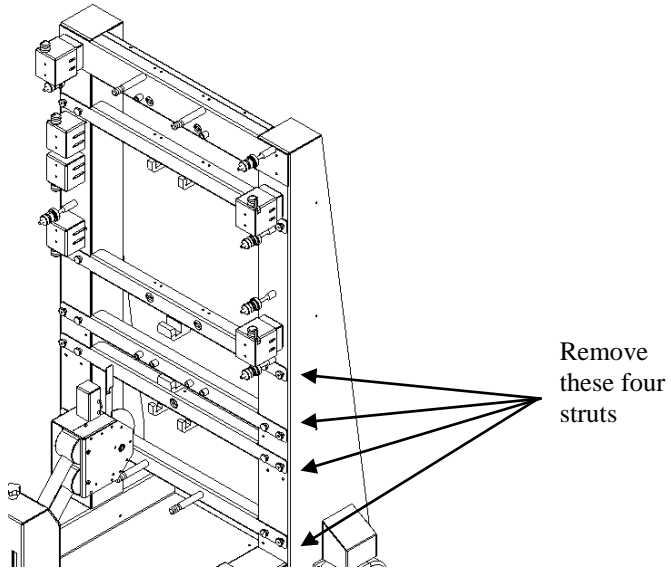
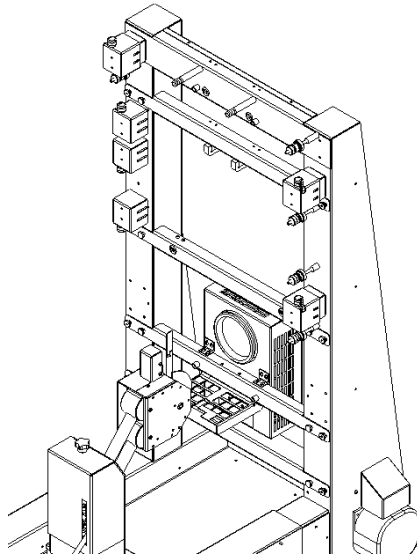

Figure 5: Removing four struts to fit radiator
Figure 6: FlexiBurn with radiator fitted (test frame not fitted)
The radiator package is supplied as an optional accessory and is not part of the standard FlexiBurn package. It is used to carry out tests to the standard EN 13772: 2003. The equipment consists of a ceramic radiator which is held in a metal case, a brass test frame incorporating a heat shield and a variable transformer. In order to use the equipment the radiator must be fitted to the standard FlexiBurn. To do this, four (4) of the support struts must be removed from the FlexiBurn and the radiator fitted in place (see Figure 5 and Figure 6).